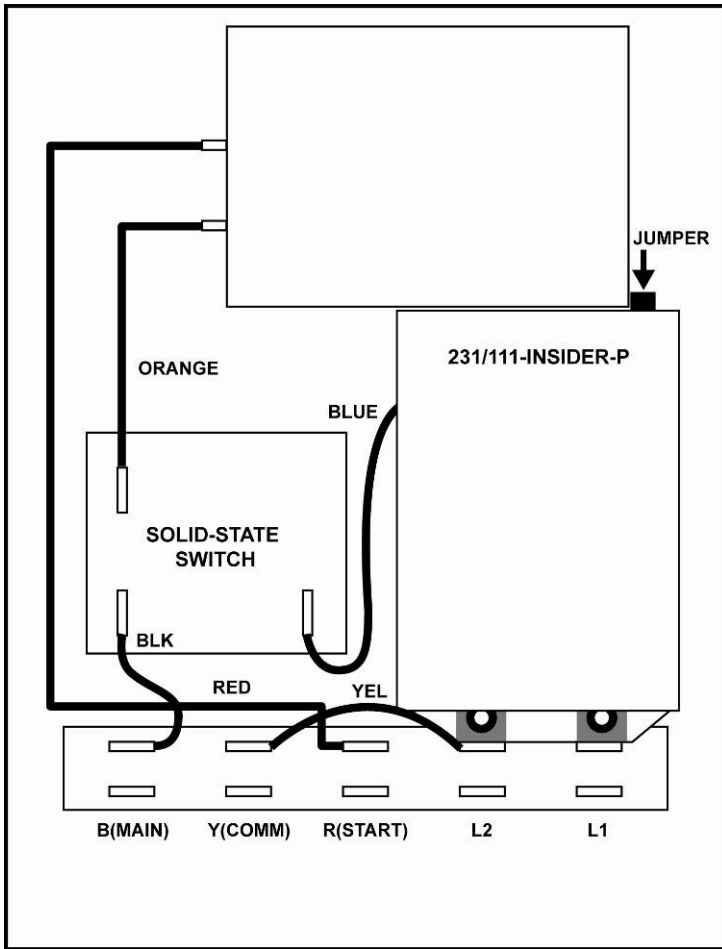

Figure 8: Location of Rapid-Cycle Jumper
1. Locate the Rapid-Cycle Jumper in the upper-right corner behind the faceplate of the PumpSaver®Plus. See Figure 8 for location of jumper.
2. Remove the Rapid-Cycle Jumper (See Figure 8). The jumper may be removed before or after initial installation.